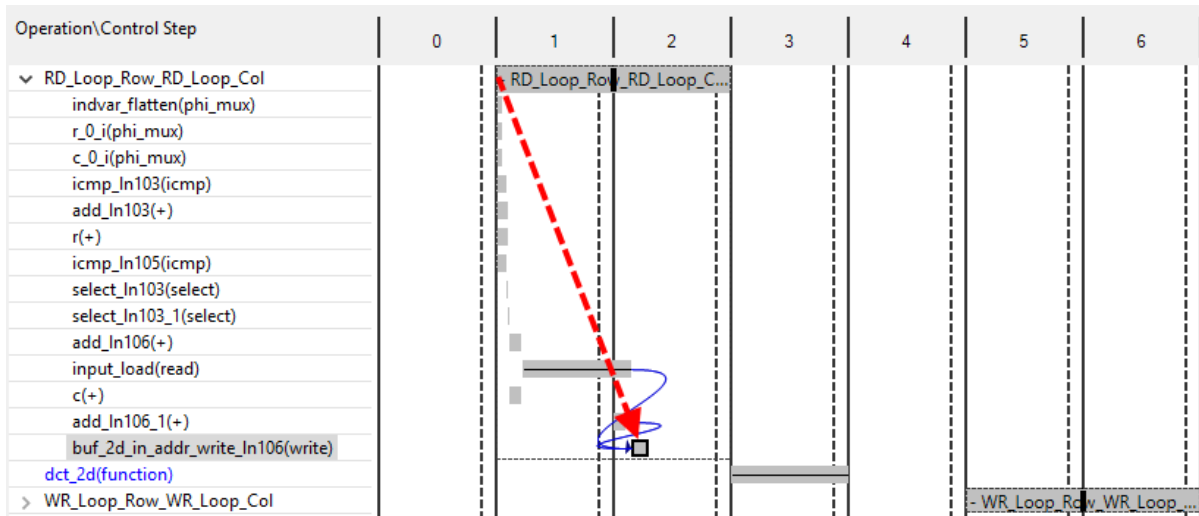

Figure 6-21: Analysis of DCT RD_Loop_Row
9. In the **Schedule Viewer**, expand the first loop in the design as shown in Figure 6-21, RD_Loop_Row_RD_Loop_Col (these loops were flattened and the name is now a concatenation of both loops).
This loop is implemented in two states. The red arrow in Figure 6-21 shows the path from the start of the loop to the end of the loop: the arrow is almost vertical (everything happens in two clock cycles) and this loop is well implemented in terms of latency.